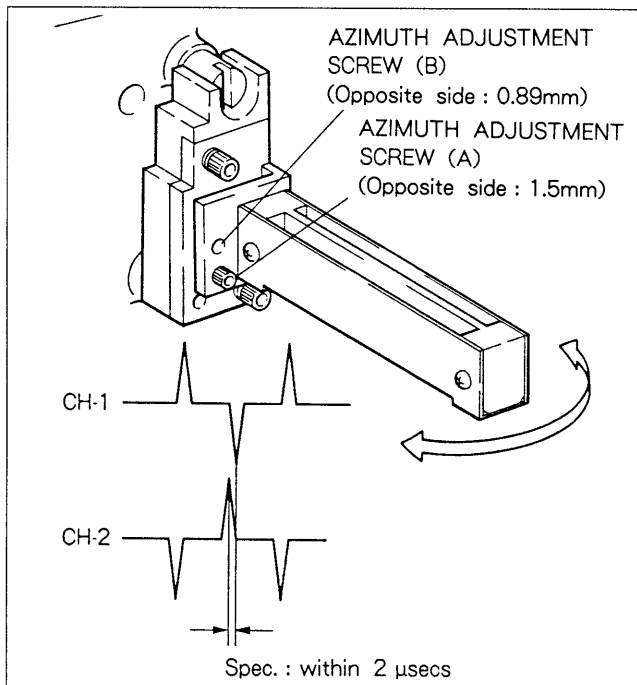

Fig. 9-8-6. Audio Monitor Head Azimuth Adjustment
- (2) Push the top of the monitor head right and left with finger lightly and find the direction whose phase difference, CH-1 (DA. CH-1) and CH-2 (DA. CH-8), conforms to the specification in Fig. 9-8-6.
- (3) Turn and adjust the azimuth adjustment screws (A) and (B) as follows until the phase difference conforms to the specification.